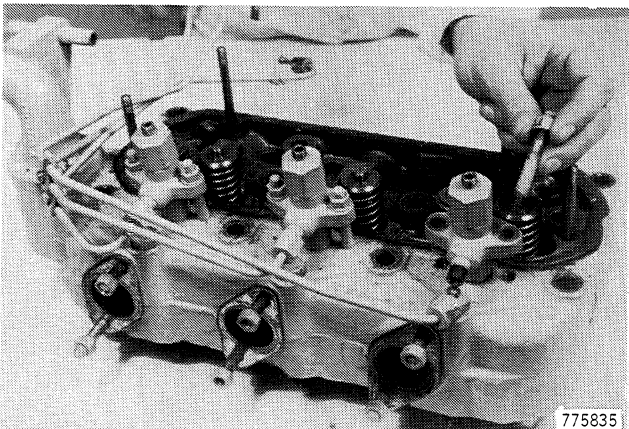

Figure 96
3. Install two studs with nuts and lock washers, Figure 96.